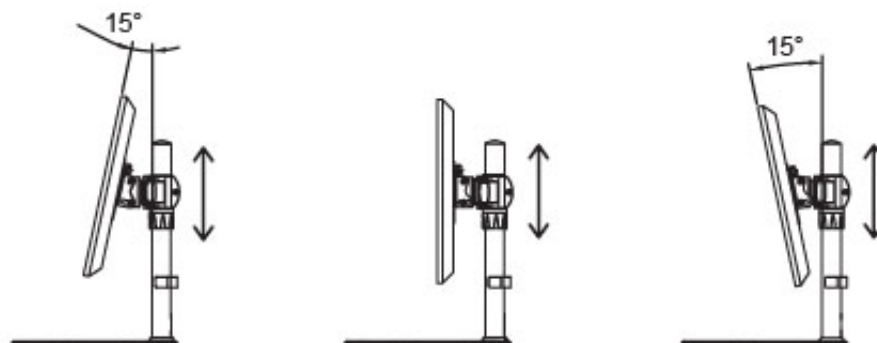

Figure 8
2. Adjust the display tilt angle into the desired viewing position, see **Figure 8**.